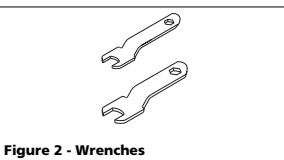

Figure 2 - Wrenches
2. Securely tighten collet with wrenches (supplied with some models) (See Figures 2 & 3).